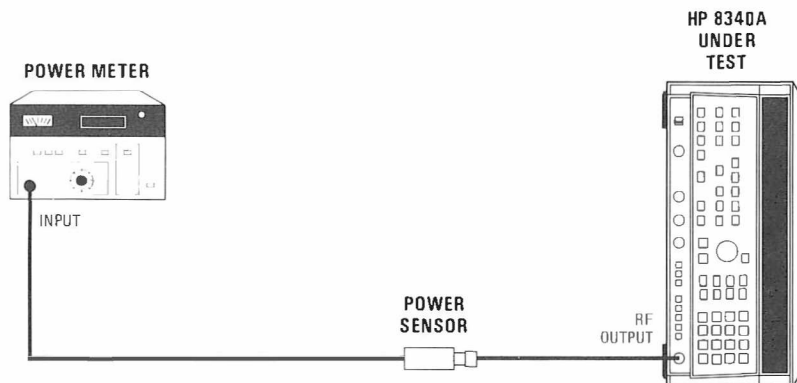

Figure 5-45. ALC Adjustment Test Setup
15. Connect equipment as shown in Figure 5-45. Calibrate and zero the power meter. Allow one hour warmup time. Connect the power sensor to the 8340A RF output. Press 8340A [INSTR PRESET]. Press [CW] and enter [4] [.] [5] [GHz]. Press 8340A [RF] key to turn the RF OFF and zero the power meter. To ensure that the power meter is properly zeroed, select "WATT" mode, and press the ZERO button two or three times. After the power meter is zeroed, the power meter should indicate ≤ 0.02 on the most sensitive range. Press [RF] to turn the RF ON. Press [PEAK] to center the SYTM frequency response to the YO signal. Press [SHIFT] [PWR SWP] to decouple the RF